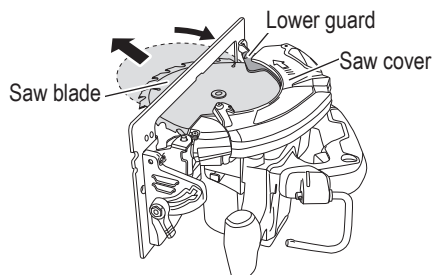

Fig. 15
- (2) While holding the end of the lower guard to keep the lower guard fully retracted into the saw cover, remove the saw blade. (Fig. 15)